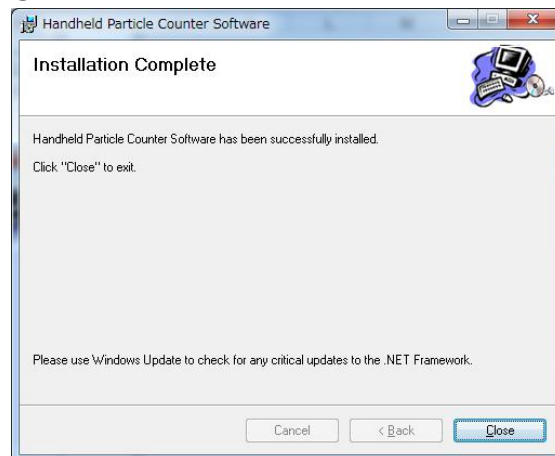

Figure 2-5
5) After a few seconds, the Installation Complete dialog box will appear as shown in Figure 2-5 below: